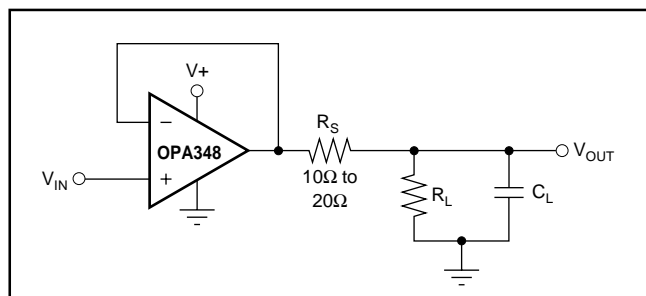

FIGURE 5. Series Resistor in Unity-Gain Buffer Configuration Improves Capacitive Load Drive.
The OPA348 in a unity-gain configuration can directly drive up to 250pF pure capacitive load. Increasing the gain enhances the amplifier's ability to drive greater capacitive loads (see the typical characteristic “Small-Signal Overshoot vs Capacitive Load”). In unity-gain configurations, capacitive load drive can be improved by inserting a small (10Ω to 20Ω) resistor,  $R_S$ , in series with the output, as shown in Figure 5. This significantly reduces ringing while maintaining DC performance for purely capacitive loads. However, if there is a resistive load in parallel with the capacitive load, a voltage divider is created, introducing a Direct Current (DC) error at the output and slightly reducing the output swing. The error introduced is proportional to the ratio  $R_S/R_L$ , and is generally negligible.